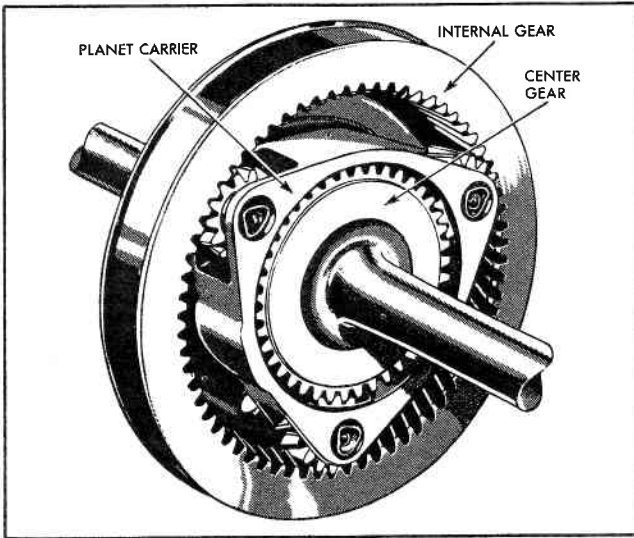

Fig. 4 Planetary Gears
a. One method of obtaining speed reduction (power multiplication) is to hold the internal gear stationary while power is applied to the center gear (Fig. 4). As the center gear turns, the planet pinion gears, which are in mesh with it, rotate on their respective pins. Since they are also in mesh with the stationary internal gear, they must "walk around" inside the internal gear, carrying the planet carrier with them in the same direction of rotation as the center gear. The planet carrier then rotates at a speed less than that of the center gear, and the planetary gear train functions as a power-increasing, speed-reducing unit.